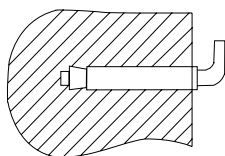
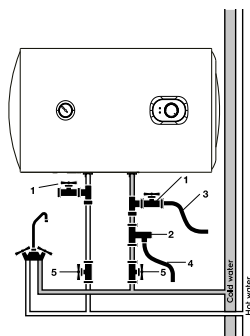

Fig. 4. Mounting anchor for mounting.
Fig. 5
- The pressure vent on the pressure relief valve (item 3 in Fig. 5) Install a drain tube and lead it to the sewer in case water is drained and excessive pressure is relieved*. The drain tube connected to the pressure outlet must point downward.
A tee can be provided for the drain with a valve between the valve and the sleeve (item 1, fig. 5).
- Connect the drain hose (item 3 in Fig. 5) to the shutoff valve.
Fig 5. When installing the heater close to a wall, leave the recommended clearance for maintenance. Do not install the heater on a horizontal surface and up against the floor. After selecting the mounting location, locate the two fastening bolts with hooks (depending on the specifications of the selected product). Make two holes in the wall to the required depth corresponding to the size of the mounting bolts, insert the screws, rotate the hook upwards, tighten the nuts firmly and then install the electric water heater on it (see Fig. 4). If the bathroom is too small to accommodate the water heater, it can be installed in any other room, protected from direct sunlight and rain.
If you want to implement a water supply system for several water points, use the connection method (see Fig. 5).